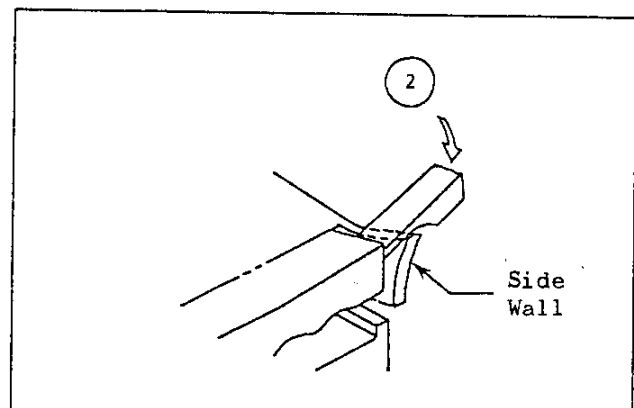

Fig. 3
2. Tilt the tool so that the tip end digs up the double-lock plate with the side wall partially bending outside to release locking device as shown in Fig.3.